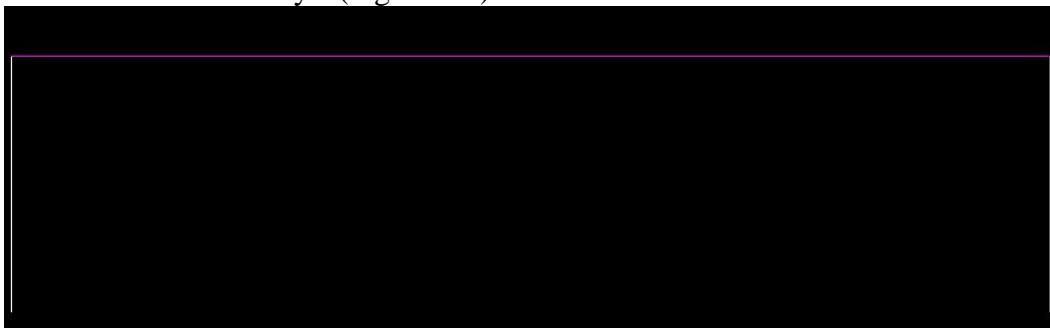

Figure 4.7
2. Click on the "Side View" button on the top menu bar. Now you should see that same line but sideways. (Figure 4.7)